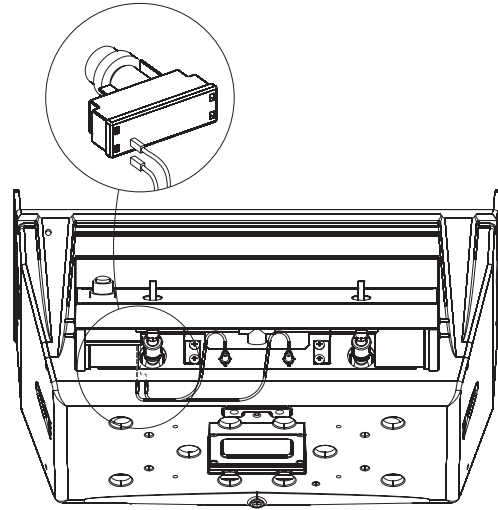

Figure 30
6. Remove ignitor from the control panel by unscrewing the ignitor button and nut. Attach ignitor wires to terminals on the ignitor. See Figure 30.